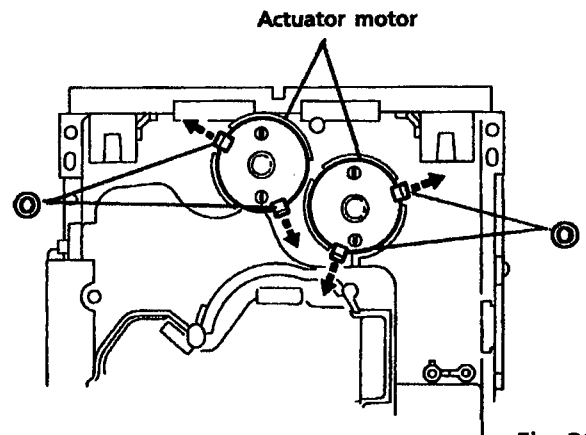

Fig. 39
5. Reverse the chassis ass'y and widen 4 pawls ④ which secure both actuator motors to its arrows to remove the actuator motors. (See Fig.39.)